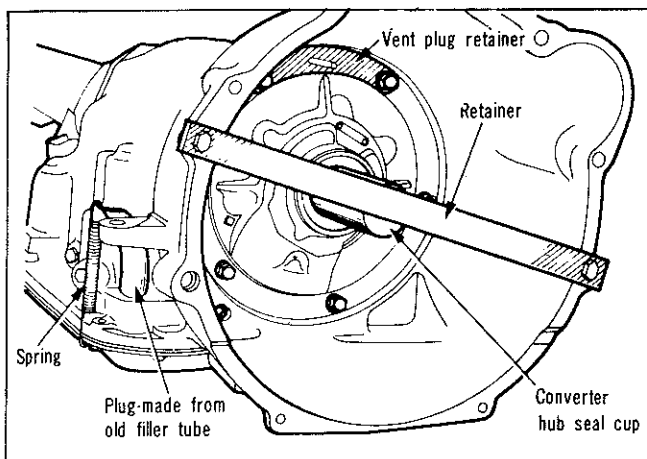

Fig. 74—Transmission prepared for test
(3) With rotary motion, install converter hub seal cup over input shaft, and through the converter hub seal until the cup bottoms against the pump rotor lugs. Secure with cup retainer strap (Fig. 74), using converter housing to engine block retaining bolts.